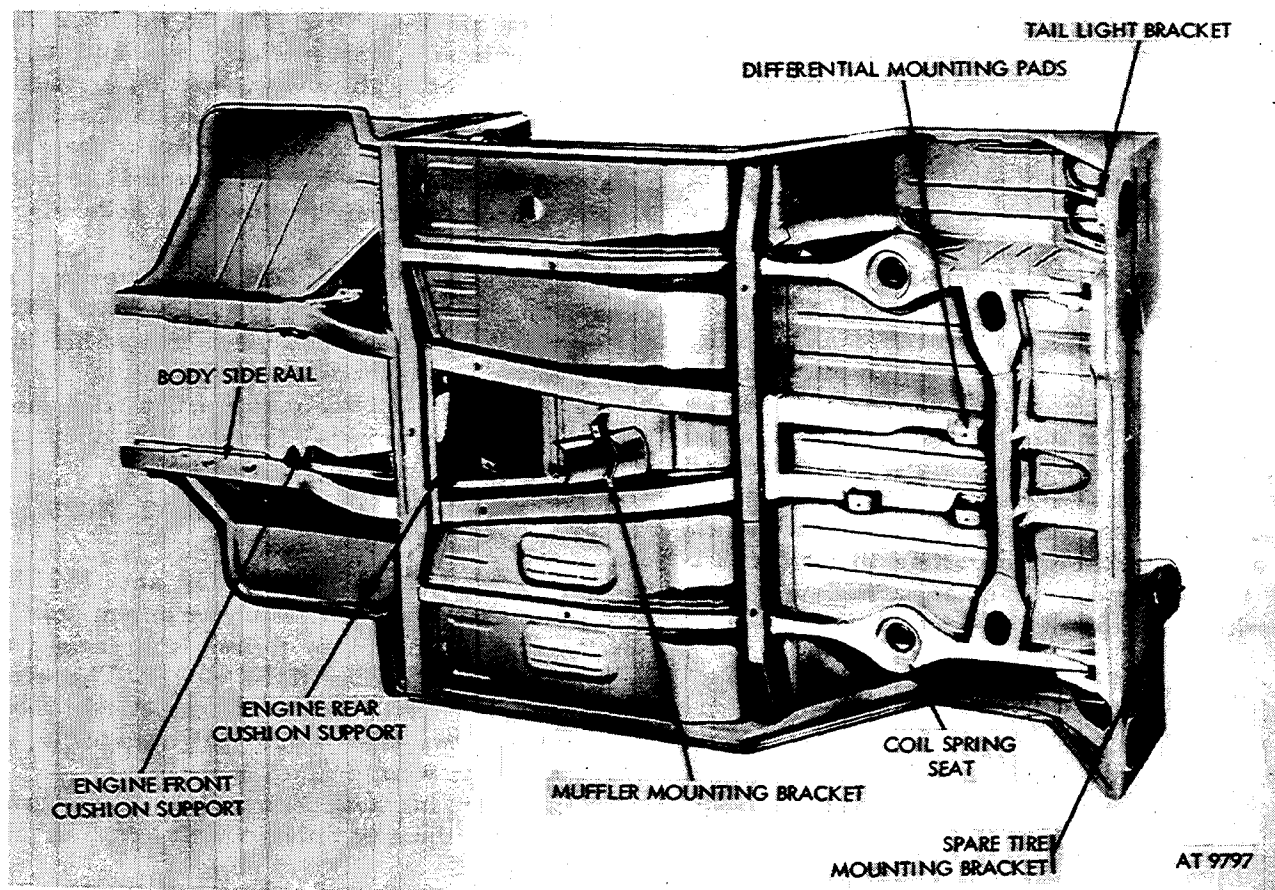

Figure 2-380. Unitized body and frame.
*a. Body and Frame.* The body is of the unitized body and frame design. Body panels, reinforcement, braces, and underbody frame are welded to form an integral unit (fig. 2-380).